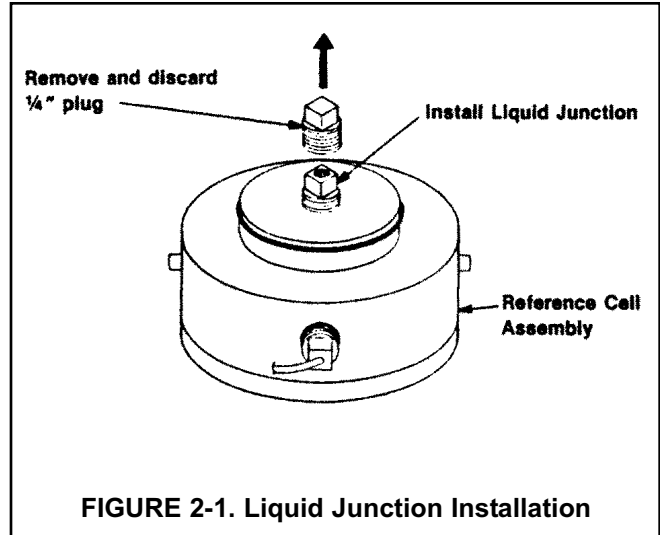

FIGURE 2-1. Liquid Junction Installation
1. Remove the reference cell by turning it about ten degrees clockwise and pulling it straight out. Hold the cell in the position shown in Figure 2-1 and remove the solid plug from the reference cell body. Gently break away any salt crust which may have formed around or inside the opening. Top off the reference cell with distilled water, tapping the cell gently to dislodge any air bubbles. Install the liquid junction supplied (PN 2001317). It is not necessary to use thread sealants. Teflon tape may be used if a loose fit is observed. The use of sticky "pipe dope" compounds should be strictly avoided. Use care not to get any greasy materials on the surface of the liquid junction. As the plug is installed, beads of water should appear on the surface of the liquid junction as water is forced through the porous material. If water beads are not present on the junction surface the liquid junction should be replaced (PN 2001317).